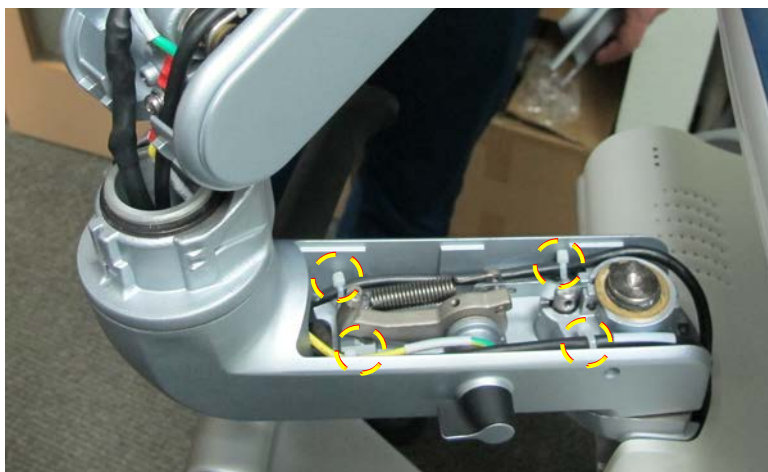

Figure 8-74 Four Tie-wraps on Lower Articulated Arm
Cut four tie-wraps on lower articulated arm - see Figure 8-74 below.
- 10.) Secure the cables in the lower section of the articulated arm with tie-wraps as shown in Figure 8-74 on page 8-63.